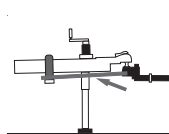

Figure 31
5. Raise the trailer jack until you can slide the spring arms onto the L-brackets; if needed, use the Snap-up lever. (Figure 31)